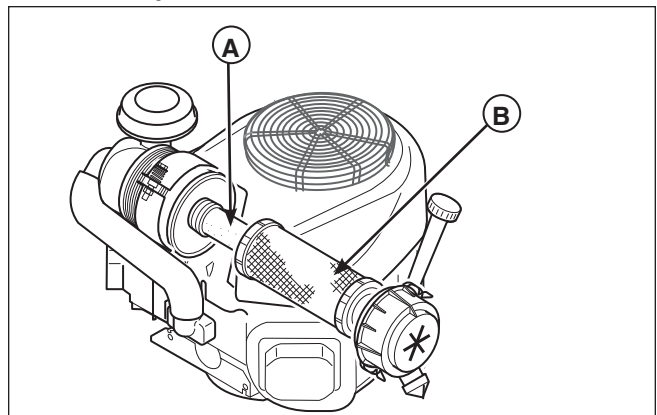

Figure 14. Air Cleaner Elements
2. Remove the primary element (B, Figure 14) and the secondary element (A) from the air cleaner body by pulling them out.